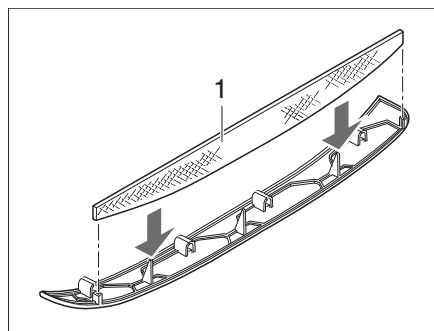
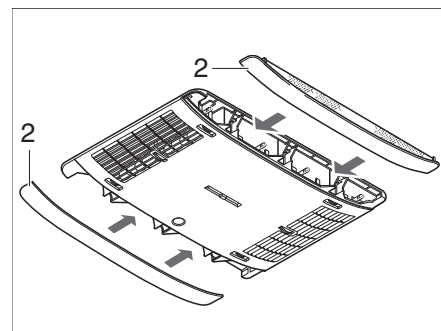

Fig. 174 Lint filter air conditioning unit
Fig. 175 Air conditioning unit panels
Two lint filters are located in the side panels (Bild 175,2). The lint filters must be cleaned at regular intervals, at least every 6 months however, and replaced if necessary.
- Remove the panels (Bild 175,2) from the air distribution unit and clean the lint filter (Bild 174,1) or replace it if necessary.